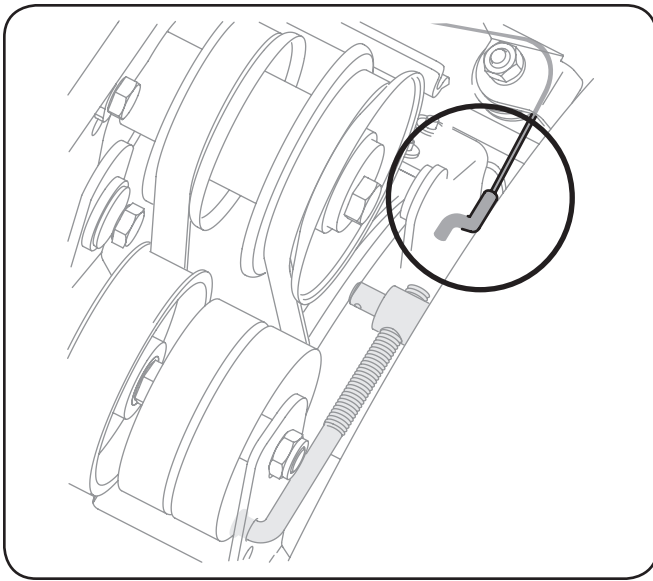

Figure 8-5
6. Pull the brake bracket assembly towards the cable guide roller and unhook the auger cable "Z" fitting. Refer to Fig. 8-5.